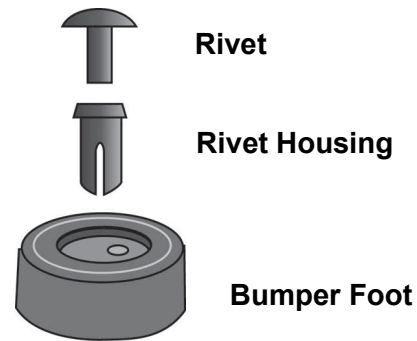

Figure 11. Parts of the Bumper Feet
1. Disassemble the bumper feet by removing the rivets and rivet housings from the bumper feet. See Figure 11.